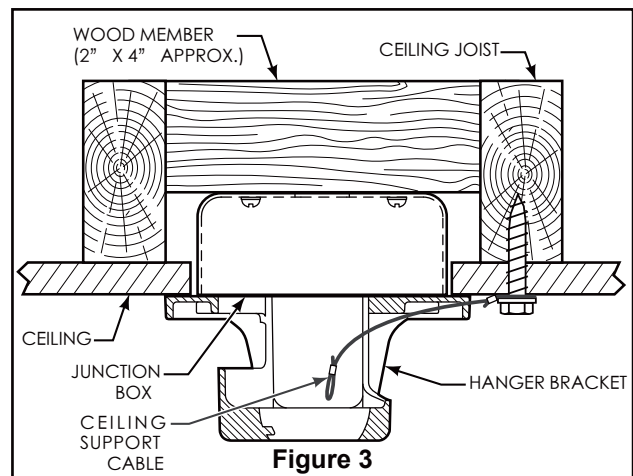

Figure 3
1. Using the $\frac{3}{8}$ " x 2" lag bolt and flat washer, attach safety cable to ceiling joist or wood structural member. The lag bolt will pass through the flat washer, safety cable loop, and into the building structure (Figure 3). You will first drill a $\frac{1}{4}$ " pilot hole into the building structure to prevent splitting or cracking.
NOTE: Ceiling support cable cannot be secured to junction box only, it must be directly secured to ceiling joist or structural member using the $\frac{3}{8}$ " x 2" lag bolt and flat washer. (Figure 3)
2. Slide the receiver into the hanger bracket as shown in Figure 3.